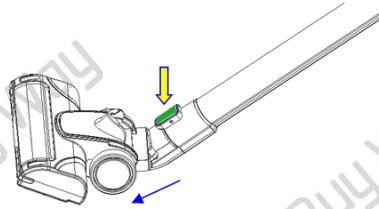

Fig. 4
- If you want to disassemble the motorized brush, press the release button of the motorized floor brush with one hand, and hold and remove the motorized brush with your other hand (see fig. 4)